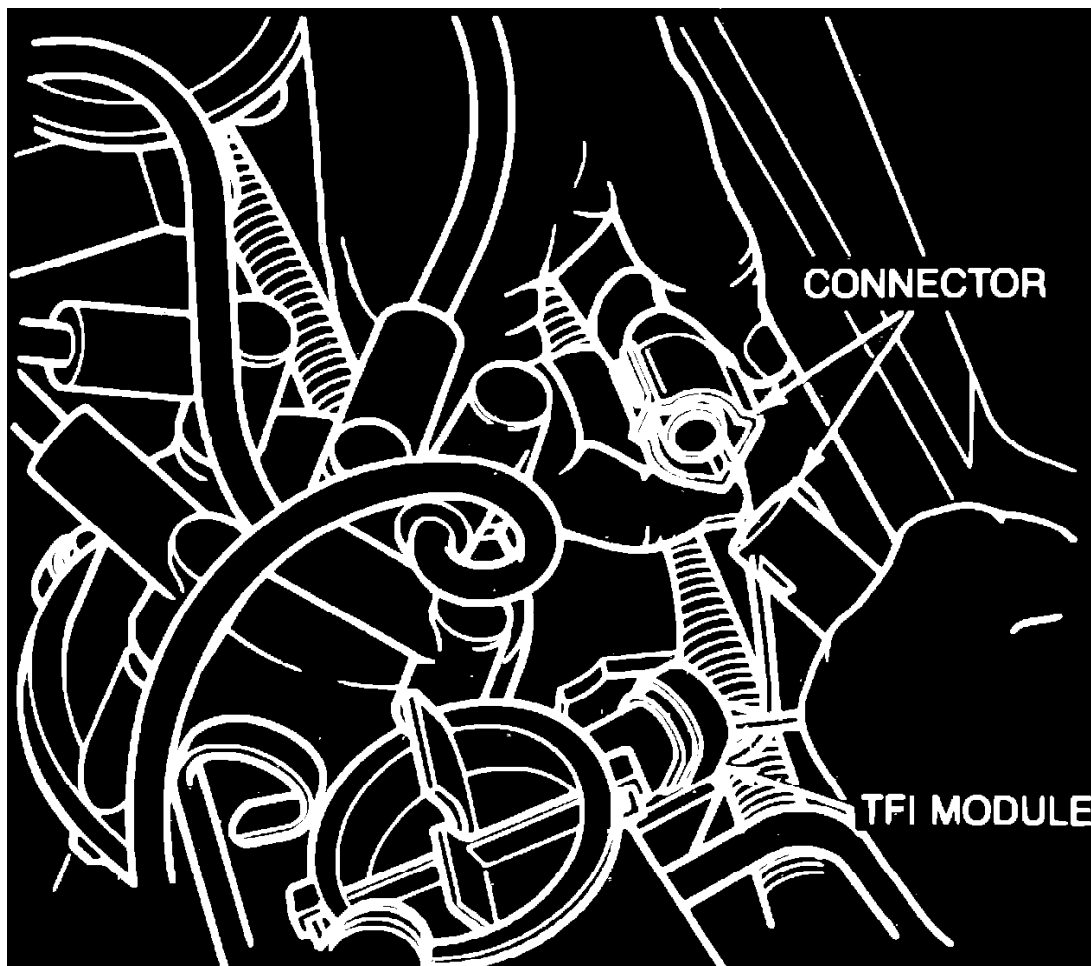

Fig. 33 Checking in-line base timing electrical connector connection
1. Ensure the in-line base timing electrical connector is securely connected, **Fig. 33**.